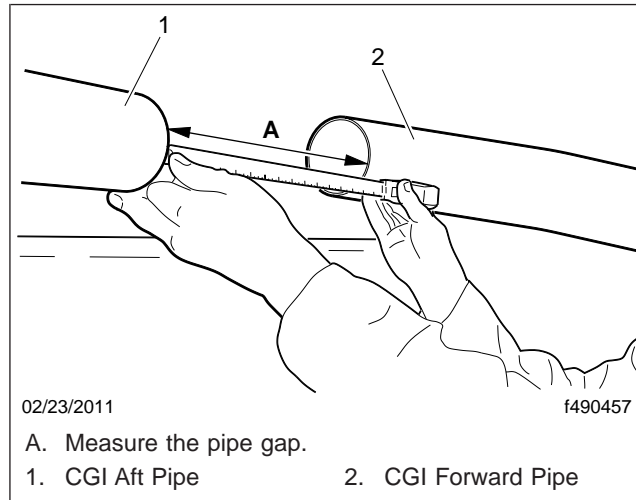

Fig. 2, Measuring the Pipe Gap (typical)
7. Once the pipes are aligned, measure the pipe gap between the CGI pipes and record the distance. See Fig. 2, Ref. A.